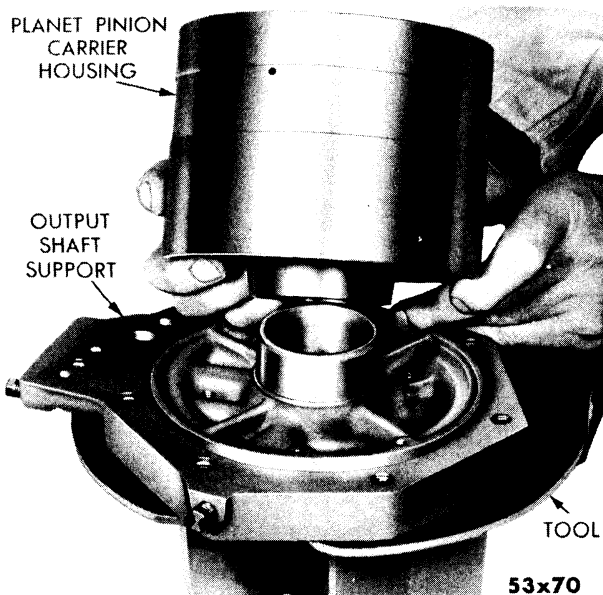

Fig. 82—Removal of Carrier Housing From Output Shaft Support
- (12) Remove planet pinion carrier housing thrust washer and inspect for cracks and wear.
- (13) Remove planet pinion carrier housing from output shaft support. (Fig. 82.) Inspect driving lug slots inside of housing for wear. Inspect bearing and thrust surfaces for scores and burrs. Closely inspect band contacting surface for burned spots and scoring, especially if lining has become excessively worn.